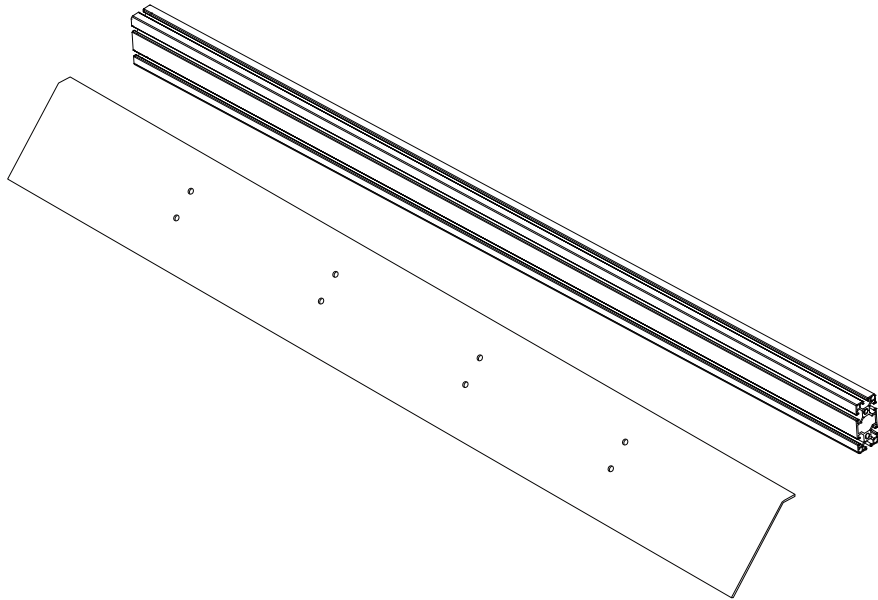

FIGURE 5
**NOTE-** IF INSTALLING OUR FRONT FAIRING; IT IS SUGGESTED TOO BOLT THE FAIRING TO THE CROSSBAR FIRST (SEE FIGURE 5), THEN ATTACH THAT ASSEMBLY TO THE ROOF RACK (SEE FIGURE 6)